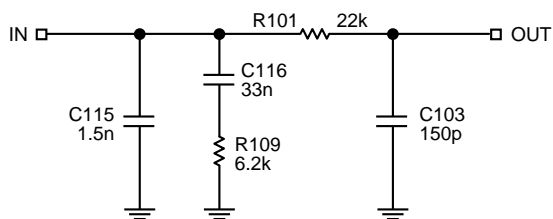

Figure 5. Third Order Loop Filter
- FSK modulation can be applied to the crystal oscillator. The extra external components needed to implement this type of modulation are shown in Figure 5. A, N and M values corresponding to the receive frequency and the low transmit frequency have to be found. The values corresponding to the low transmit frequency should be programmed in dividers A1, N1 and M1. In transmit mode, set DataIXO='1' and tune the trimming capacitor until the output frequency that corresponds to data '1' is reached. Check that the output frequency equals the low FSK frequency when DataIXO='0'.